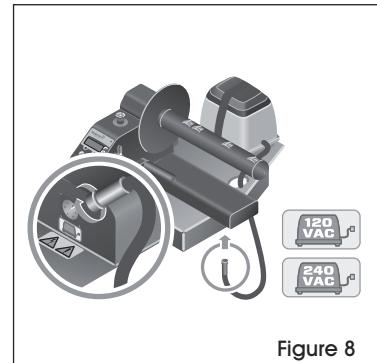

Figure 8
9. Tilt up machine and insert air pump power cord into the keyed plug. Twist to lock. (See Figure 8)